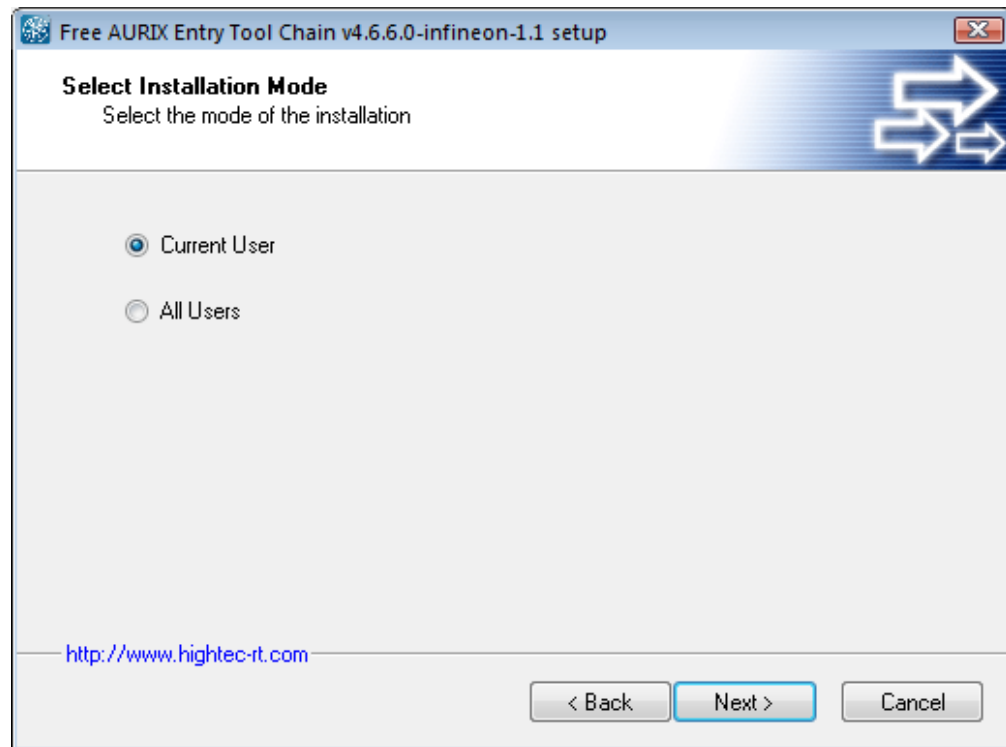

Figure 3 TriCore Free Entry Tool Chain Setup dialog
3. Select **Next** button. In the next dialog you can decide if the tool chain will be installed only for your profile or for all users of the computer (Figure 3)